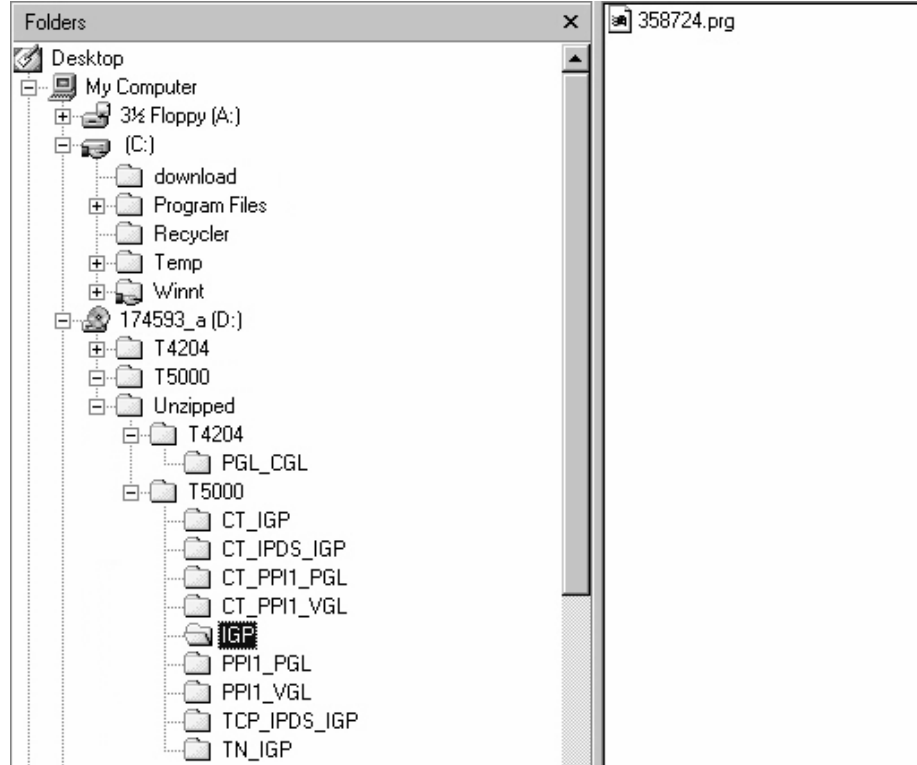

Figure 3. Navigating to the Appropriate Emulation File on the CD
- Using Windows Explorer, navigate to the appropriate file on the CD (using the Unzipped directory) based on the printer model number and desired emulation, e.g., Unzipped ▶ T5000 ▶ IGP. (See Figure 3.)